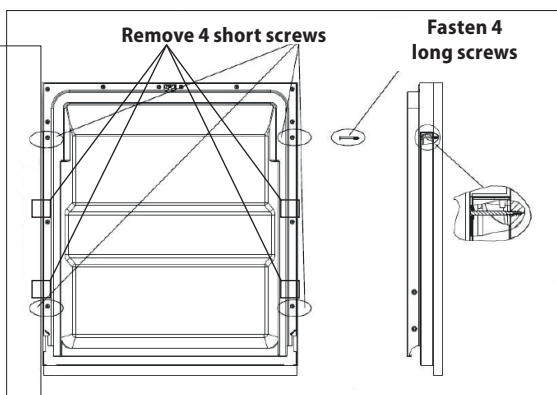

Fig. 14b
- Fasten the cover plate using the screws (Fig. 14b).
- Unscrew the four short screws from the inner side of the door (Fig. 14b).